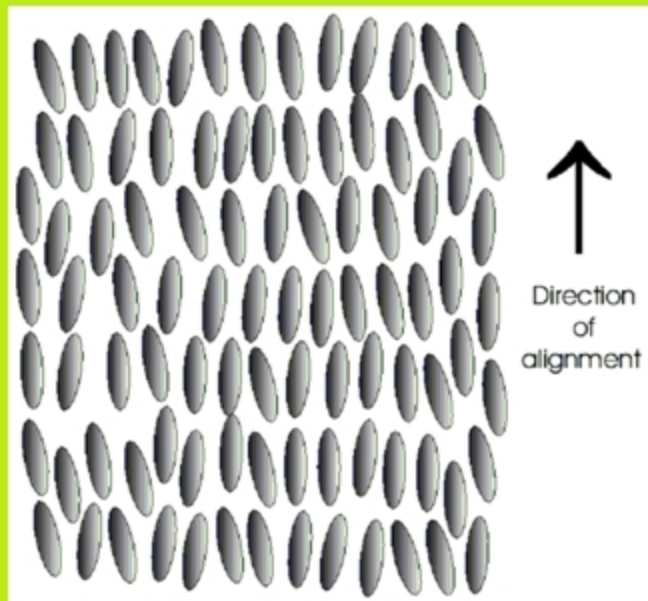

Figure 2.22 Schematic representation of smectic liquid crystalline phase
- 1、 The smectic liquid crystalline phase is characterised when molecules possess a degree of long range orientation order as well as long range positional order: the molecules are parallel and arranged in layers which stack on top of each other (Figure 2.22)**